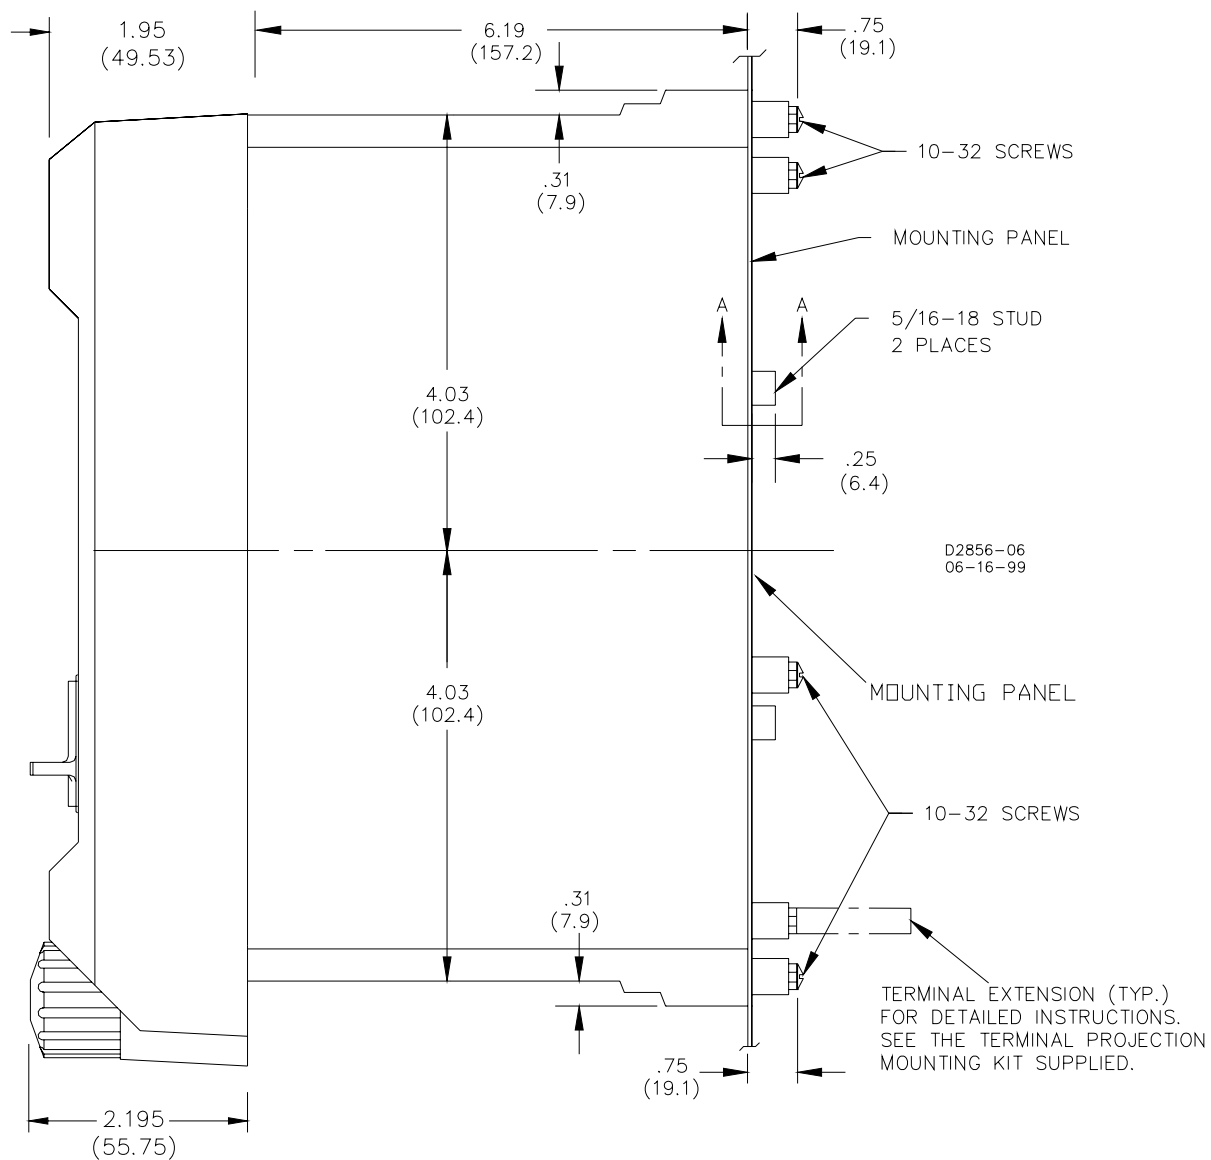

Figure 4-4. Case Dimensions, Side View, Double-Ended Projection-Mount Case
- Step 6. Connect a 50/60 Hz source to relay terminals 6 and 7 as shown in Figure 4-4. Note that this setup allows rapid switching from a voltage that is approximately one-half of pickup to a voltage (ΔV) that is higher than pickup. The switching also provides a means of precisely verifying the time between the voltage step change and the resulting output response.